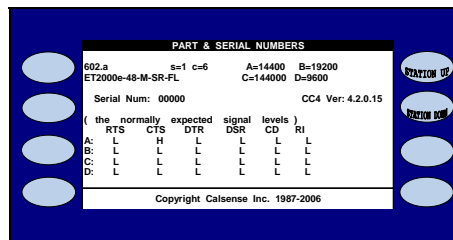

Figure 11.3
6.  Press the **CONTROLLER INFO** Menu key to go to the PART & SERIAL NUMBERS screen (Figure 11.3).